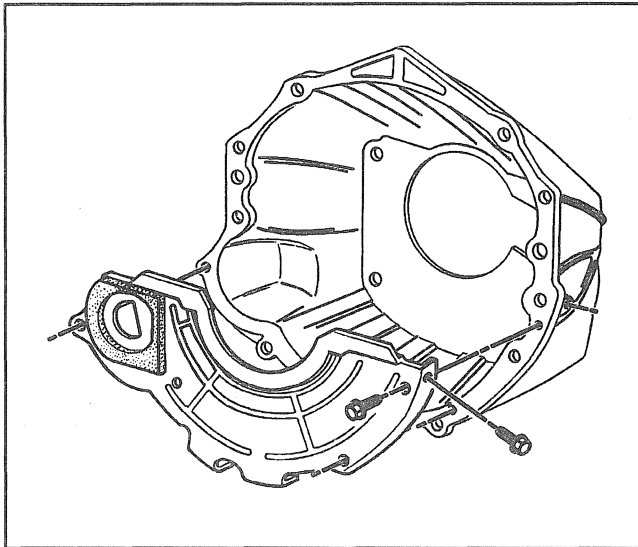

Figure 11—Clutch Housing Cover
11. Four bolts securing the clutch housing cover to the transmission (Figure 11).
9. Four bolts securing the clutch housing cover to the NV3500 transmission (Figure 11).